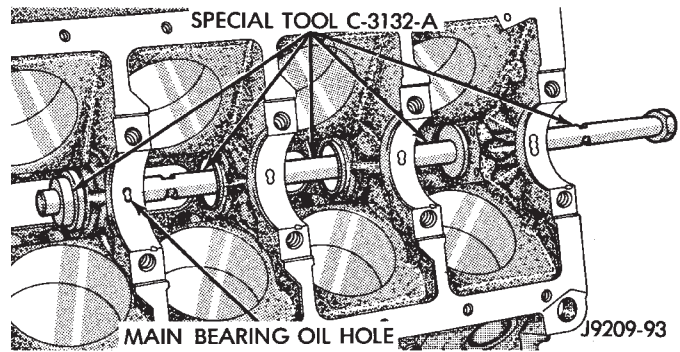

Fig. 32 Camshaft Bearings Removal/Installation with Tool C-3132-A
(1) With engine completely disassembled, drive out rear cam bearing core hole plug.
(2) Install proper size adapters and horseshoe washers (part of Camshaft Bearing Remover/Installer Tool C-3132-A) at back of each bearing shell. Drive out bearing shells (Fig. 32).